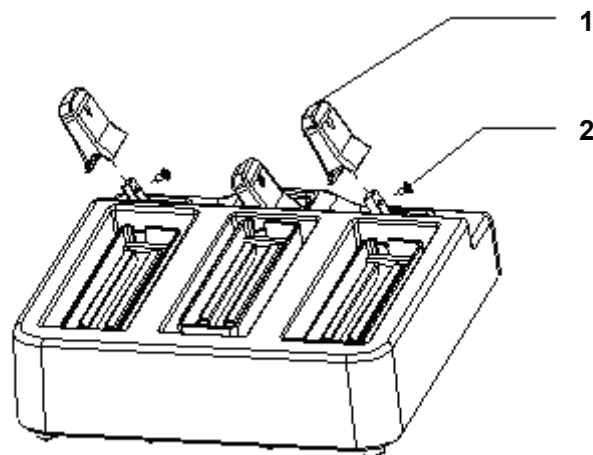

Figure 4-38 Removing Transducer Extension Module (3)
- 7) As shown in Figure 4-38, remove two M2×4 Philips sunk screws, and pull out the transducer lever.